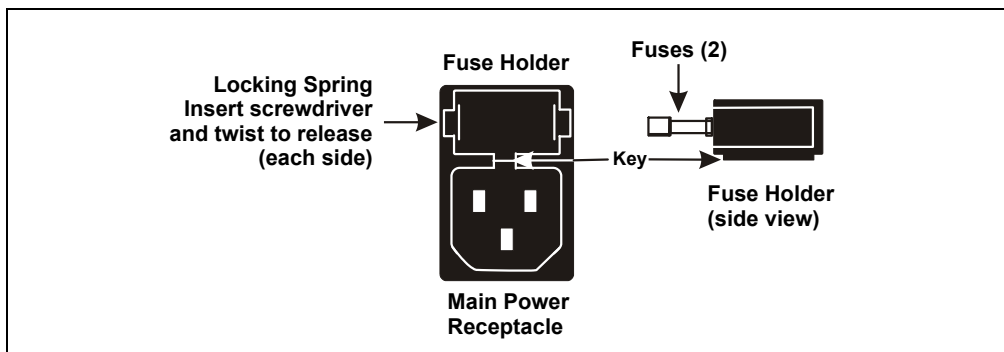

Figure 5-10. Main Power Fuse Holder
2. A recessed lock is located on each side of the fuse holder (see Figure 5-10). Using a small screwdriver, push each lock toward the center to release it. The fuse holder pops out slightly when the locks release. When both locks are released, pull the fuse holder straight out of its compartment.